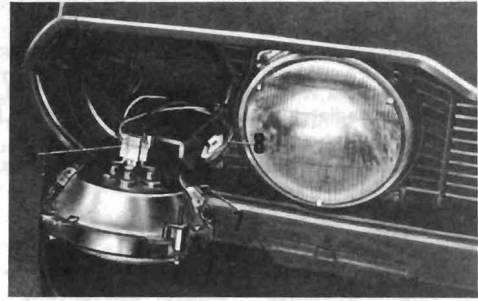

Fig. 9.8 Sealed beam headlamp location (Sec 15)
suitable angle to engage with its seat (8) (Fig. 9.8). Lock the toggle clips.